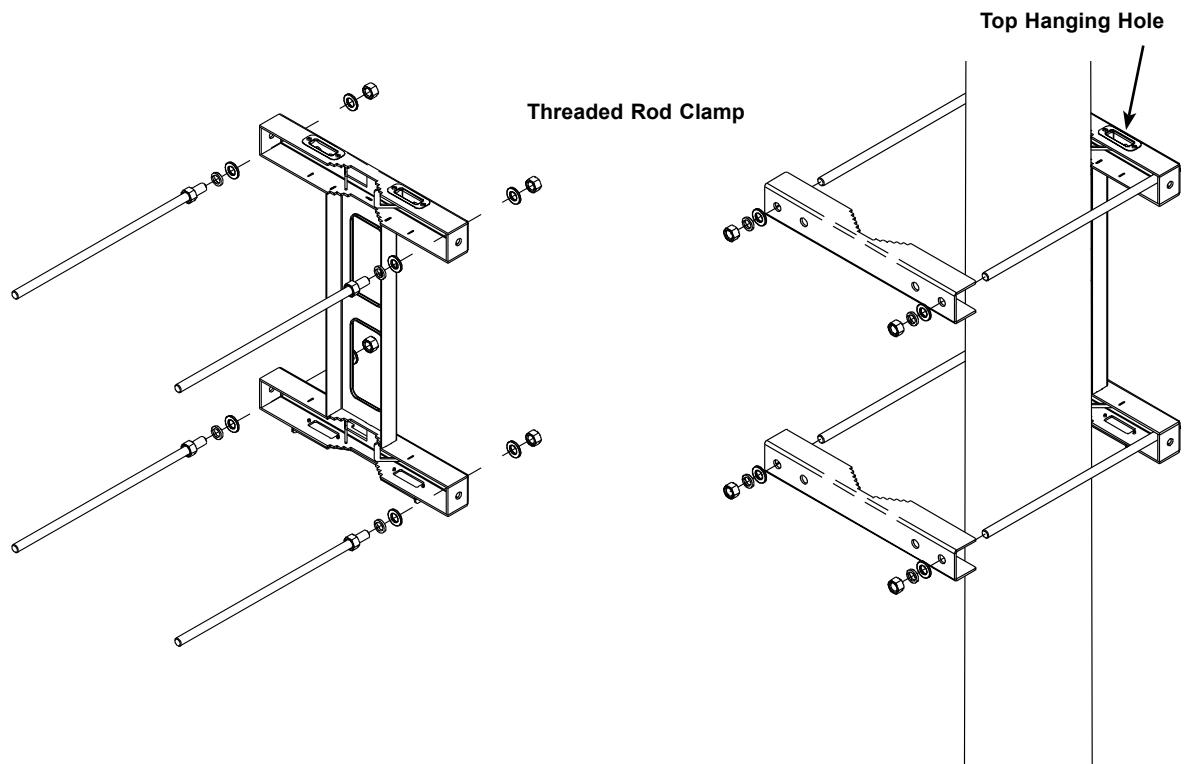

Figure 2-2. Attaching the Clamp to the Pole
3. Mount the bracket on the pole as illustrated in Figure 2-2, making sure it is firmly secured.